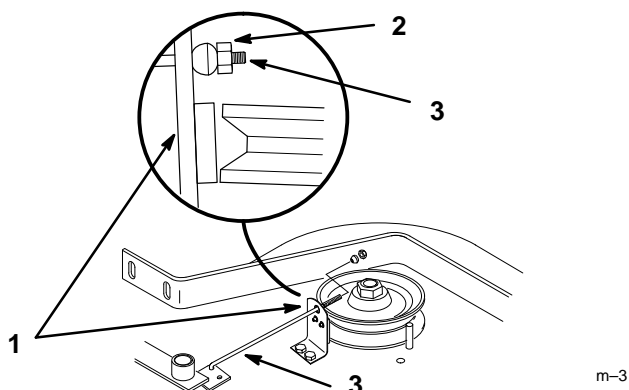

Figure 34
2. Loosen nut at the brake spring so pad rubs against pulley. Then tighten nut until pad just clears the pulley (Fig. 34).
3. Disengage blade control (PTO) lever. Brake rod(s) must be loose (Fig. 34).